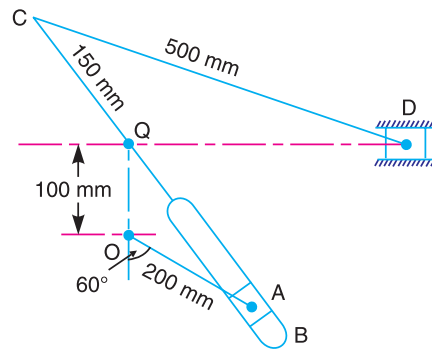

Fig. 8.44
9. Fig. 8.44 shows a quick return motion mechanism in which the driving crank OA rotates at 120 r.p.m. in a clockwise direction. For the position shown, determine the magnitude and direction of 1, the acceleration of the block D ; and 2. the angular acceleration of the slotted bar QB .